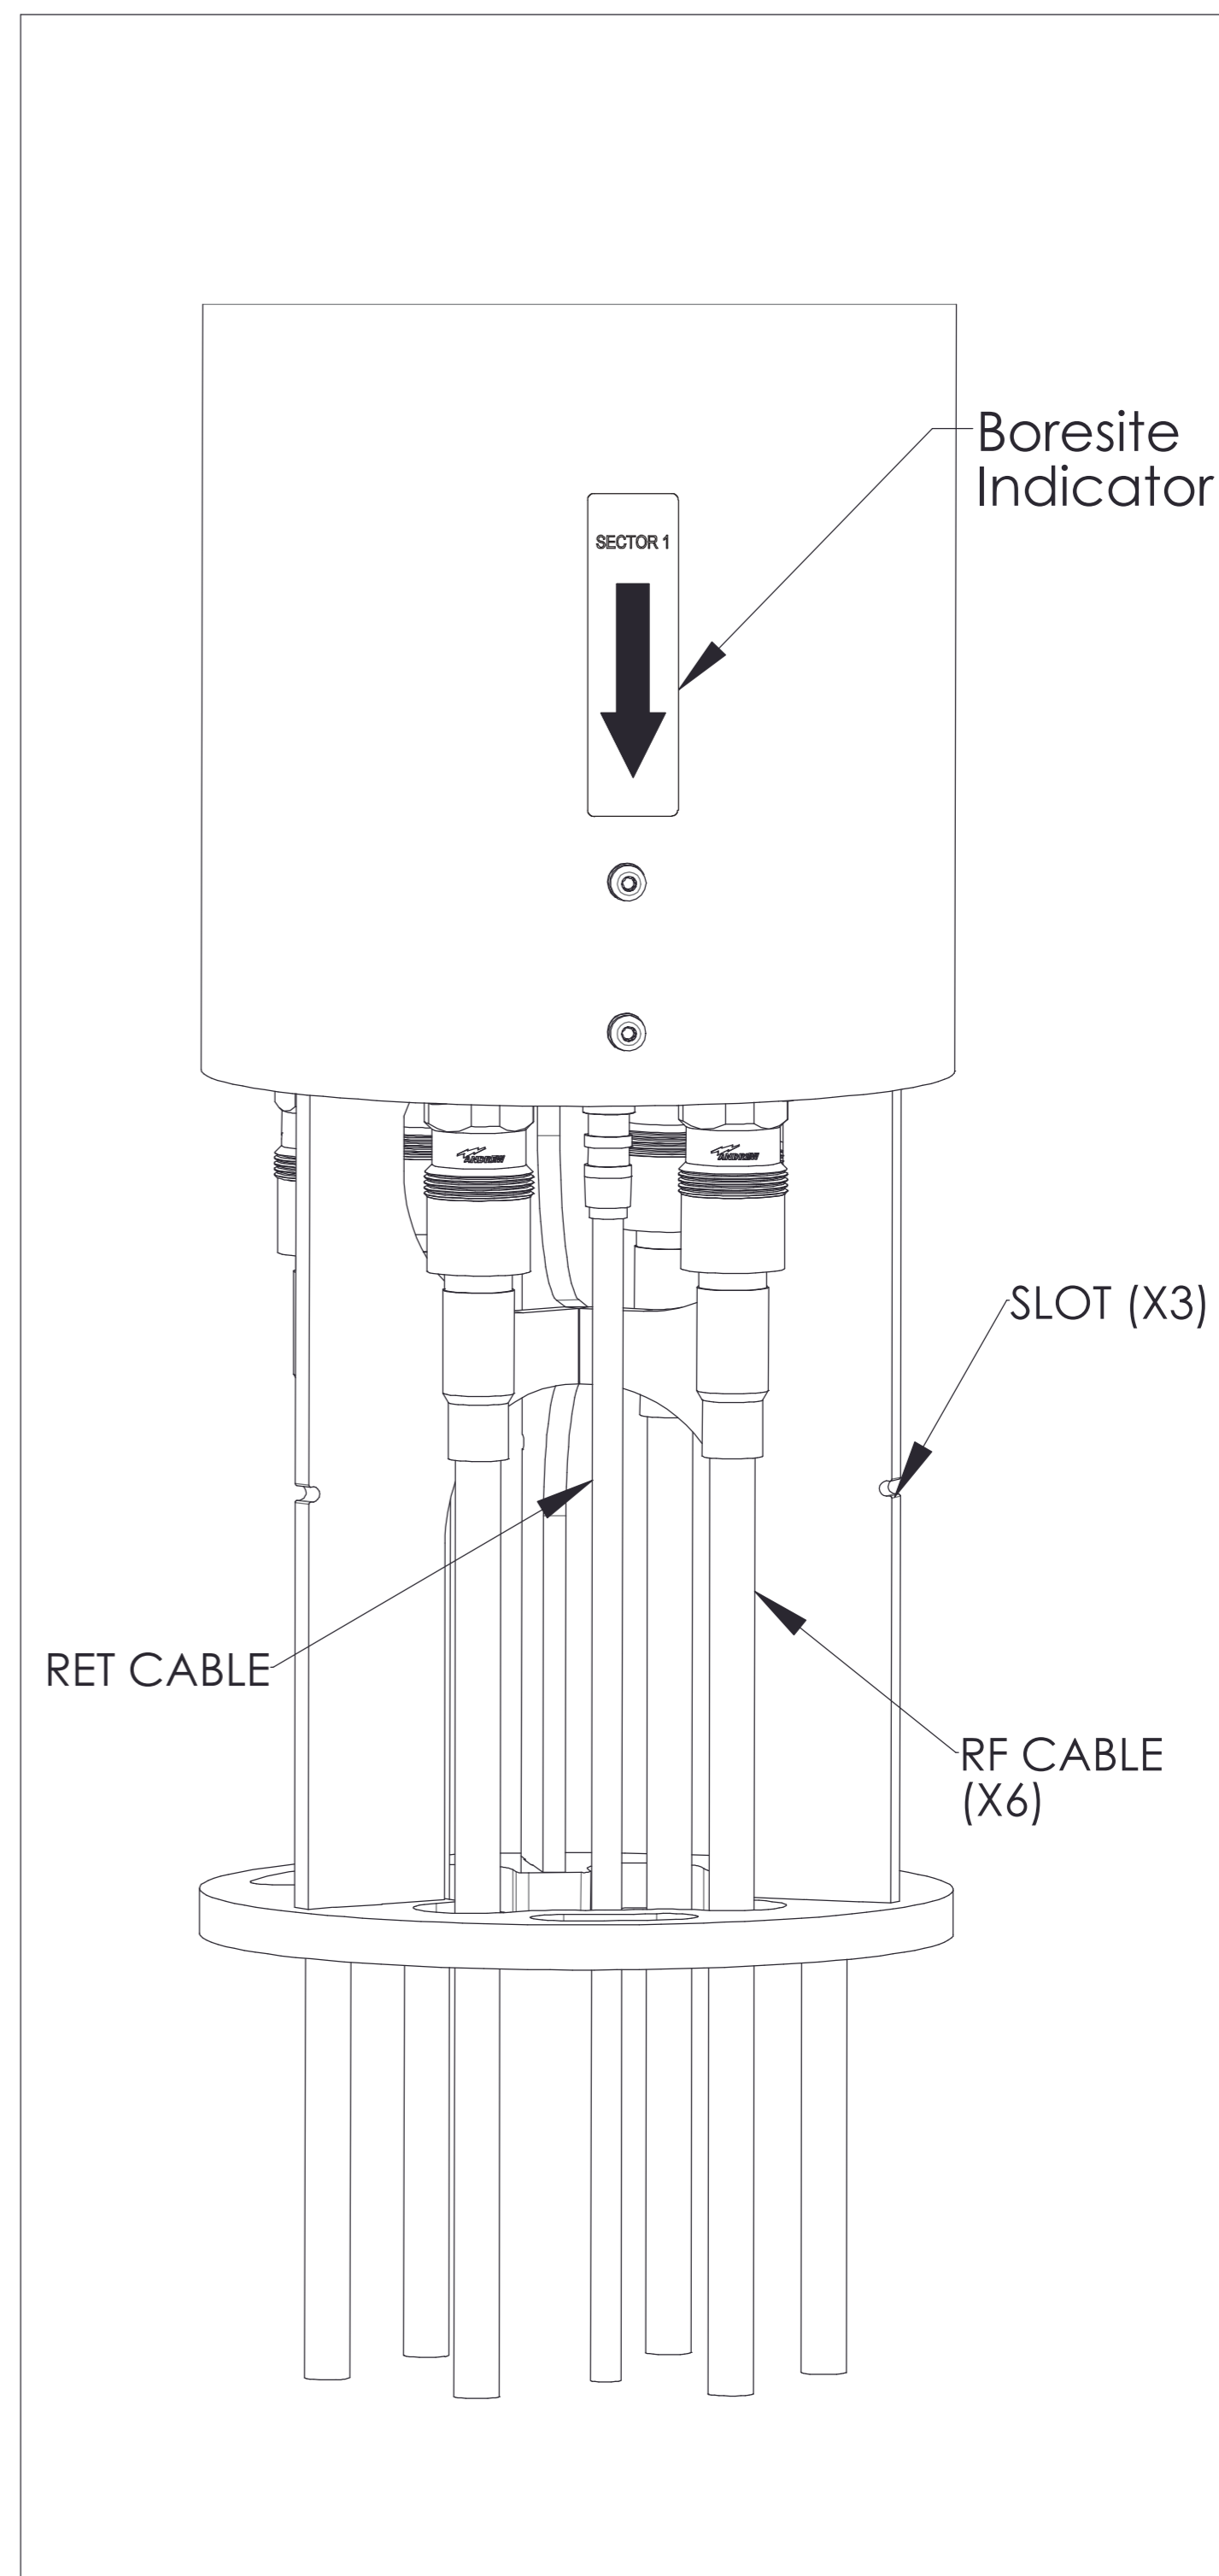

Figure 5. Routing Cables.
The boresite of each antenna is shown by the boresite indicator (featured in Figure 5). The direction of each antenna must be considered prior to mounting to ensure desired performance.
5. Attach the RF cables to the antenna input connectors and torque to 25-30 Nm (Figure 5).